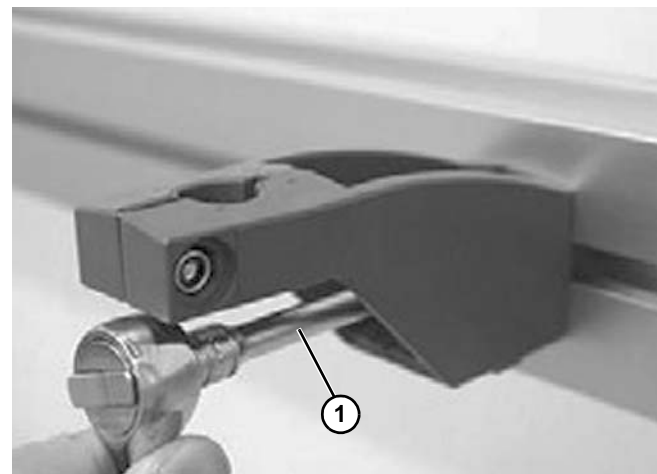

Figure 85
2. Attach the bracket onto conveyor beam and tighten with a socket wrench (Figure 85, item 1). Install upper and lower caps.